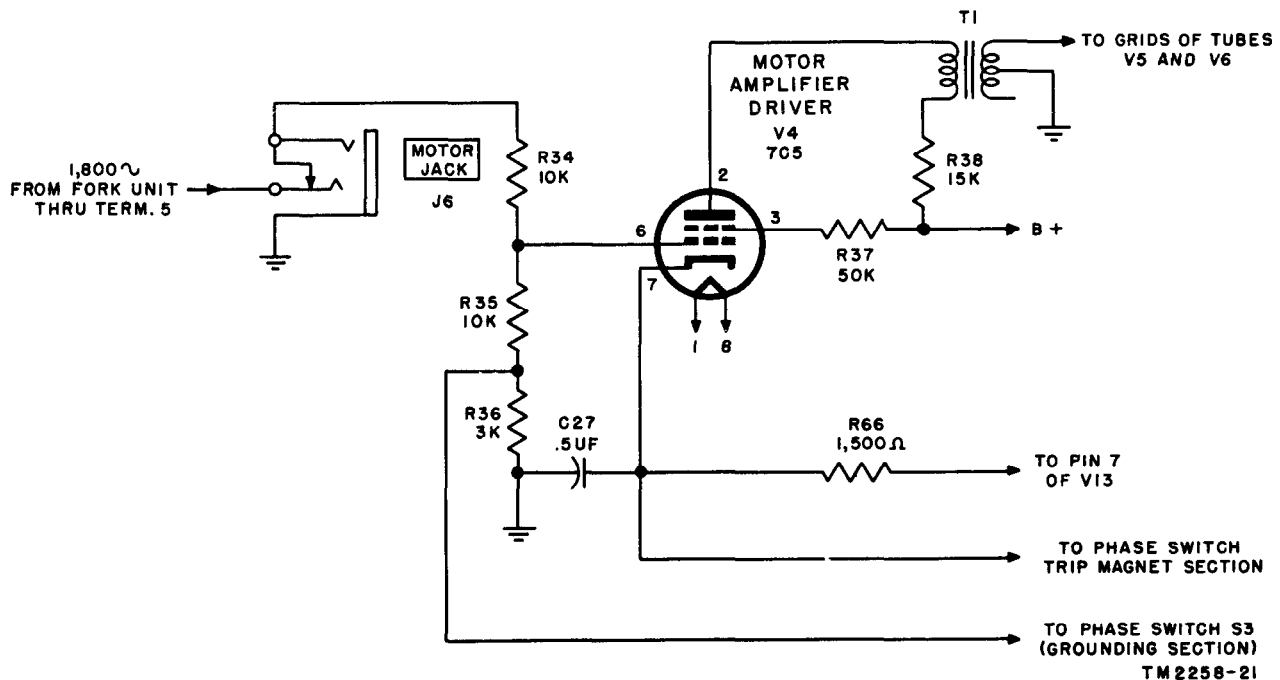

Figure 40. Motor amplifier driver, facsimile transceivers, TT-1/TXC-1 and TT-1A/TXC-1.
(1) Facsimile Transceivers TT-1/TXC-1 and TT-1A/TXC-1 (fig. 40). The 1,800-cycle signal of the fork oscillator unit is applied to the grid of the motor amplifier driver stage V4 (7C5). This signal is applied through terminal 5 of the fork oscillator terminal board through MOTOR JACK J6 and is applied to a voltage divider consisting of R34, R35, and R36. Normally, the junction between resistors R35 and R36 is shorted to ground so that R36 is out of the circuit. The voltage across R35 is applied to the tube control grid (pin 6). During the phasing operation, however, R36 becomes part of the voltage divider, and the voltage to the grid of tube V4 is increased. Increasing the input to V4 results in increasing the drive on parallel motor amplifier tubes V5 and V6, furnishing additional power to the synchronous motor. During the phasing operation, the motor requires additional power because of the additional load created by friction in the clutch mecha-